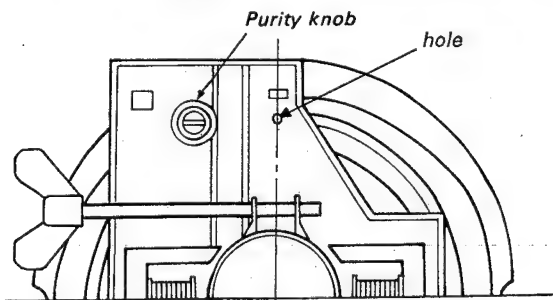

Fig. 1-1.
4. Set the purity knob to mechanical center as shown in Fig. 1-1.